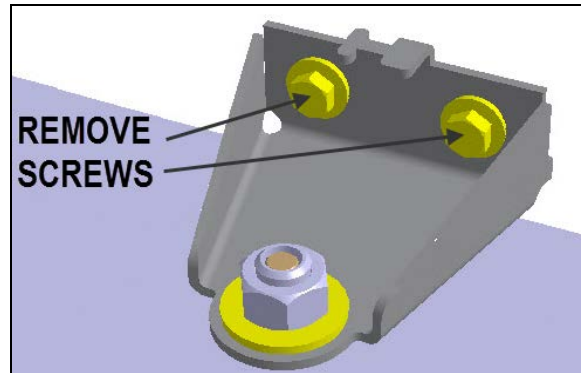

Fig.10
6. Remove the bracket from the vehicle by unscrewing the two M8 hex bolts (13mm or 1/2" head) securing it to the frame (Fig.10).